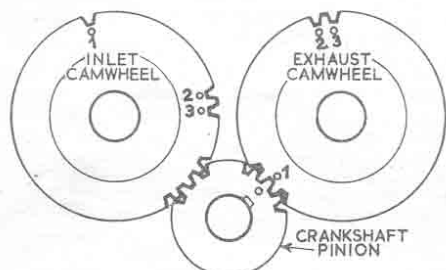

Fig. 2. Setting valve timing using marks on camwheels and crankshaft pinion.
#### (4) Resetting Valve Timing (see fig. 2).